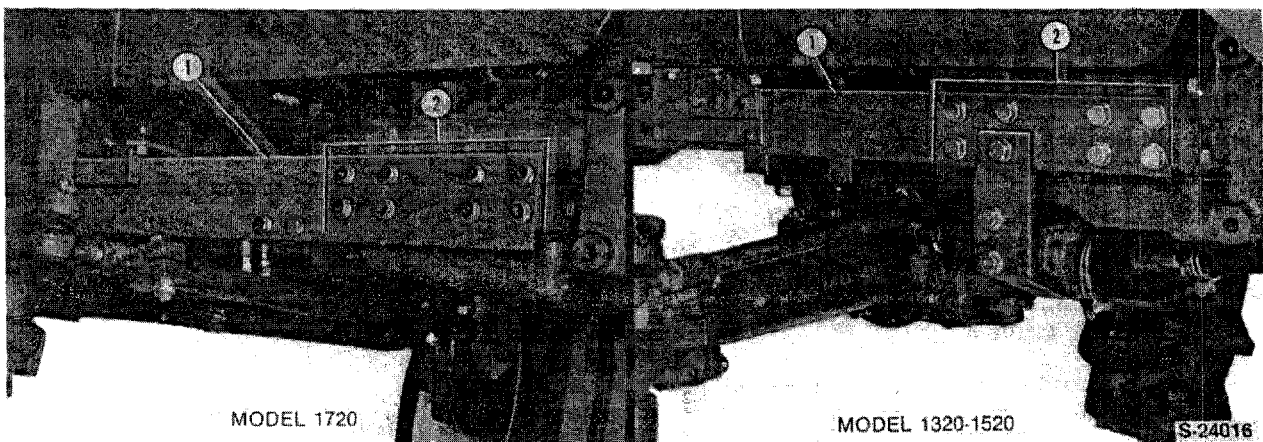

Figure 11
12. Remove the bolts from each side of the support rails, Figure 11.